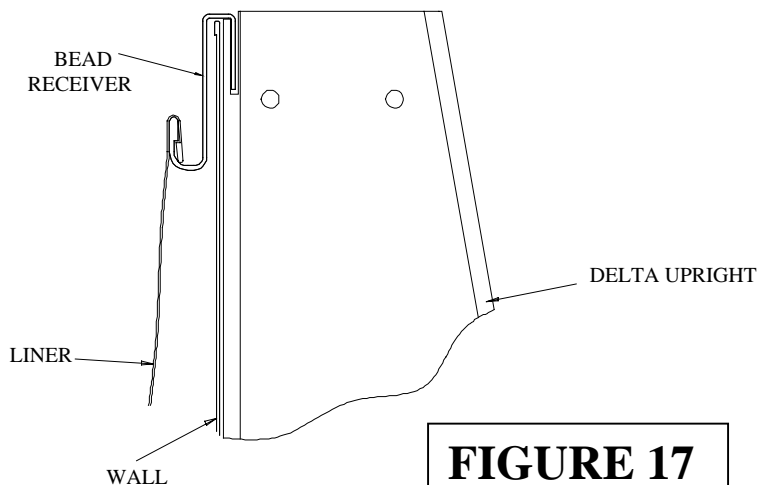

FIGURE 17
Step 16: See Figures 17, 18 and 19. Place the bead receiver on the wall with the ends centered over the uprights. Tape the joints of the bead receiver using fabric tape to protect the liner.